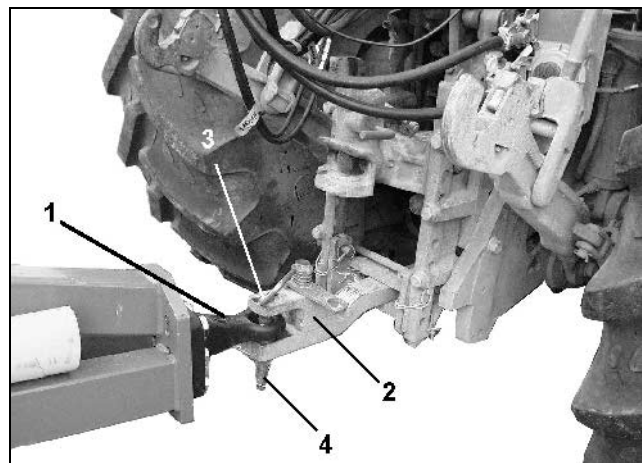

Fig. 16
- Couple the machine by using the pulling eye (Fig. 16/1) on to the swinging drawbar (Fig. 16/2) of the tractor;
- Lock by using the pin (Fig. 16/3) and
- Secure using lynch pin (Fig. 16/4).